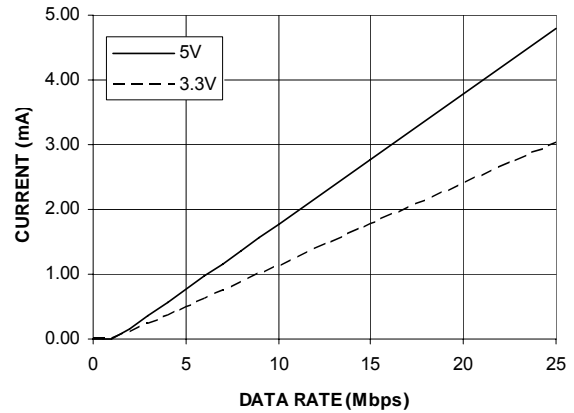
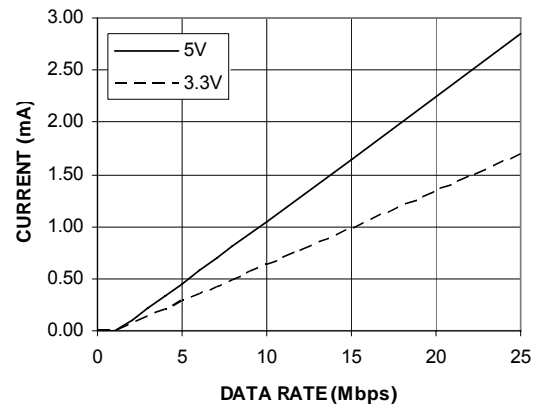

Figure 15. Typical  $I_{ISO(D)}$  Dynamic Supply Current per Input
Figure 16. Typical  $I_{ISO(D)}$  Dynamic Supply Current per Output (15pF Output Load)
Both Dynamic I/O current is consumed only when operating at channel at speeds higher than the rate *fr*. Since each channel will have a dynamic current that is determined by its data rate, Figure 15 shows the current for a channel in the forward direction, which means that the input on the primary side of the part. Figure 16 shows the current for a channel in the reverse
- Ichn is the current drawn by a single channel determined from Figure 15 or Figure 16 depending on channel direction.
- IISO(D)n is the dynamic load current drawn from VISO by an input or output channel, as shown in Figure 15 and Figure 16. Data is presented assuming a typical 15pF load